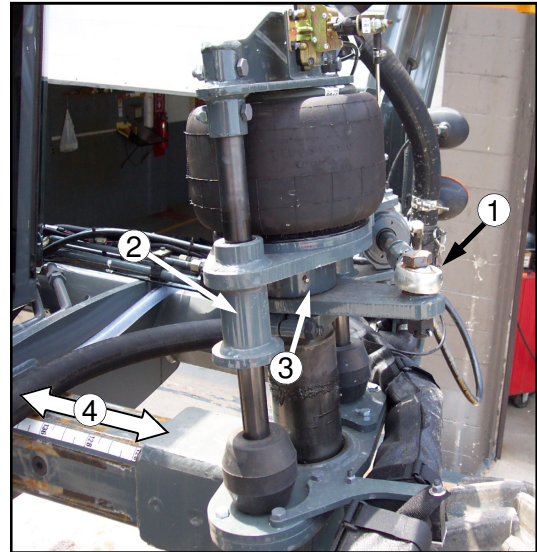

FIG. 122-1
**LEGS AND STEERING**– The front legs have a grease zerk in the tie rod ball (figure 122-1, item 1) that needs greased every 50 hours or weekly.
Both the front and rear legs have two grease zerks, one in each of the tower bearings (figure 122-1, item 2) that must be greased every 50 hours or as necessary. There is a zerk in the collar (figure 122-1, item 3) that also needs greased every 50 hours or as necessary.
The slide path of the tread adjust (figure 122-1, item 4) should be greased every 50 hours depending on the amount of usage.